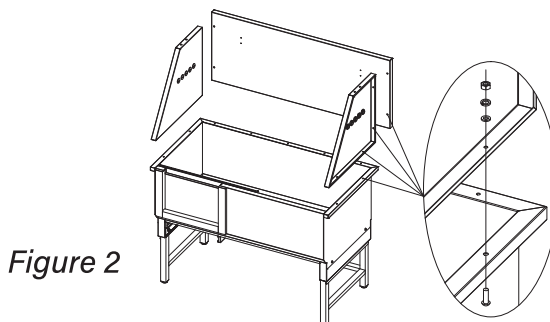

Figure 2
Connect the Tub Basin (14) with the Tub Left Sidesplash (1), Tub Right Sidesplash (2) and the Tub Backsplash (8) with M6*20 Bolt x 13 (I), M6 Washer x 13 (E), M6 Spring Washer x 13 (F), M6 Nut x 13 (G) by 4mm (M6) Hex Wrench (H). See Figure 2.